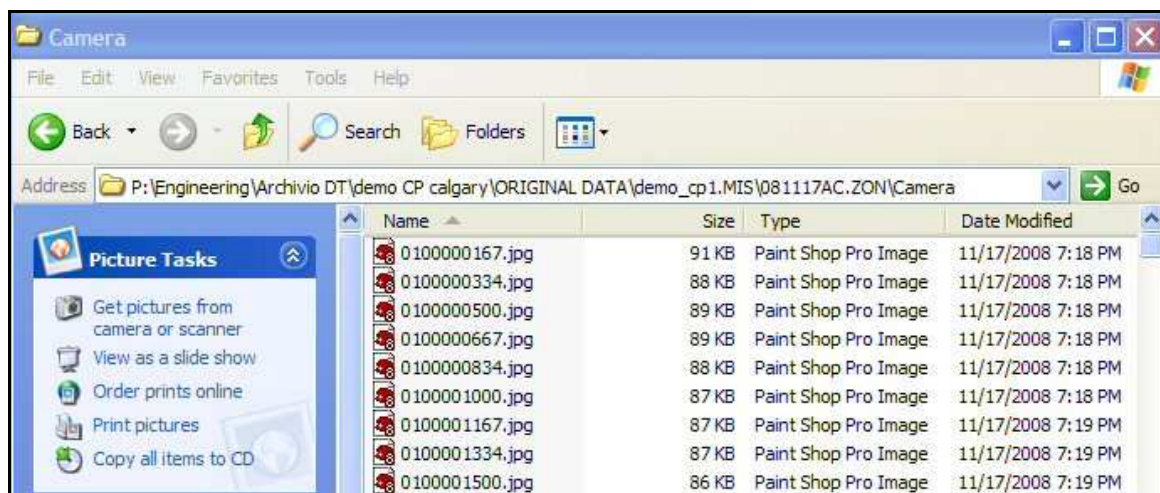

Fig. D. 6 – Folder “Camera”
Step 8 After you finish the scan and press **End acquisition** button, the software will create automatically a folder named “Camera” in the directory of the mission just acquired (see Fig. D. 6). This folder contains “n” files .jpg for “n” pictures acquired by the videocamera during the scan.